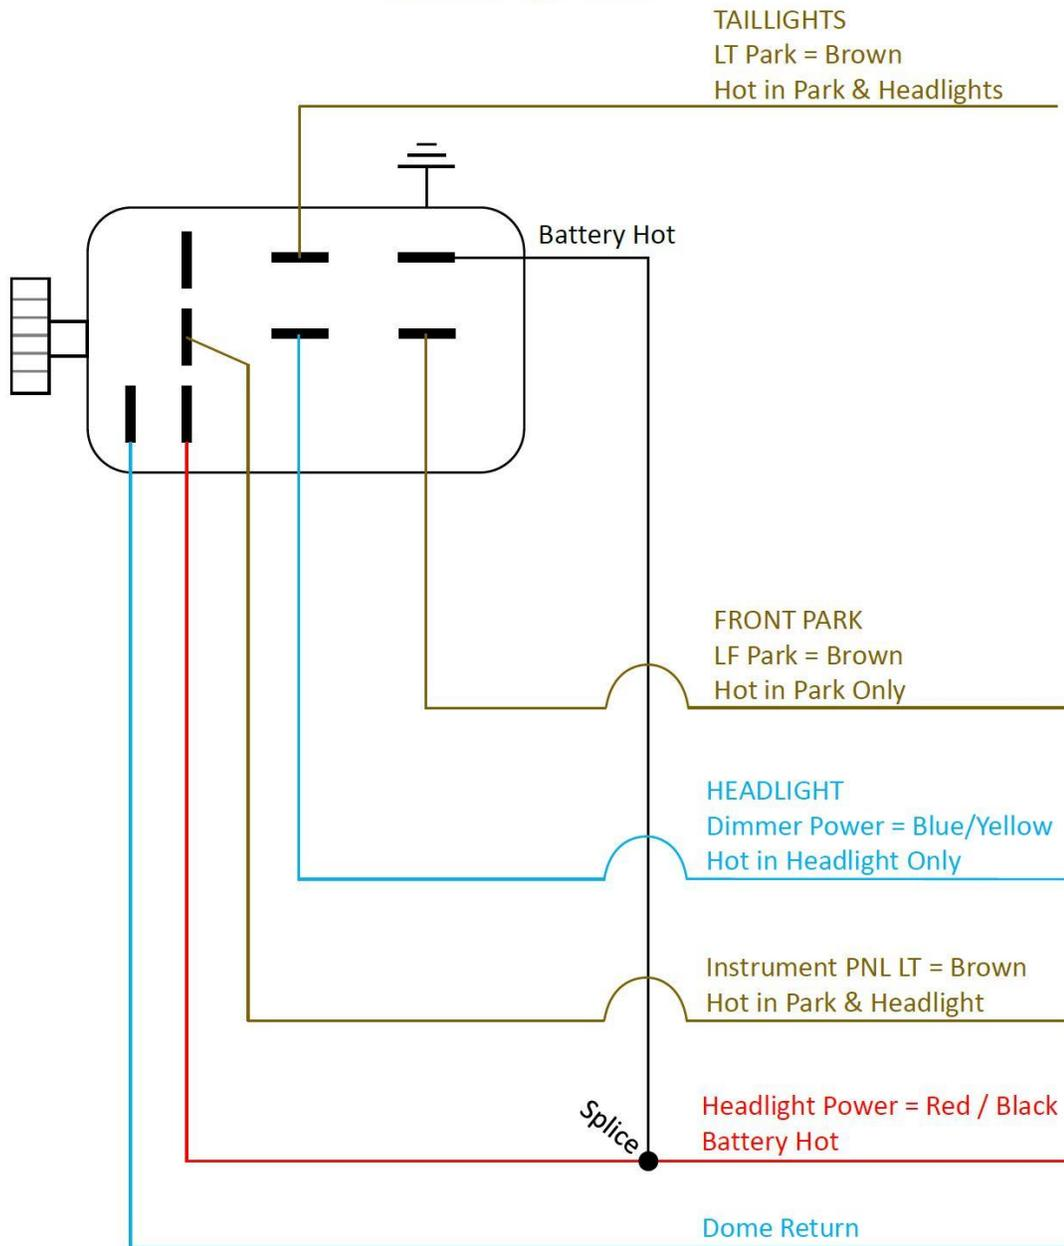

Figure 10
13. Locate the blue wire as seen in Figure 8 on the next page. Remove the terminal from the connector using a terminal removal tool or a small flat blade screwdriver. The blue wire is the 12 volt headlamp feed. Insert the terminal of the blue wire on the new headlight harness into the headlight connector location where the original blue wire was removed. **NOTE:** The instrument panel brown wire can also be used for a power wire as shown in Figure 10 on page 8.